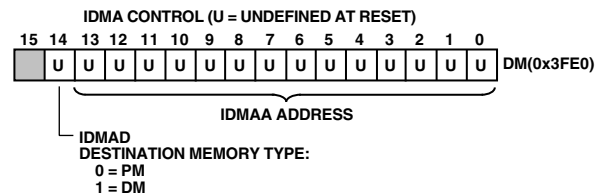

Figure 19. IDMA Control/OVLAY Registers
Through the IDMAA register, the DSP can also specify the starting address and data format for DMA operation. Asserting the IDMA port select (IS) and address latch enable (IAL) directs the AD73411 to write the address onto the IAD0–14 bus into the IDMA Control Register. The IDMAA register, shown below, is memory mapped at address DM (0x3FE0). Note that the latched address (IDMAA) cannot be read back by the host. See Figure 19 for more information on IDMA and DMA memory maps.